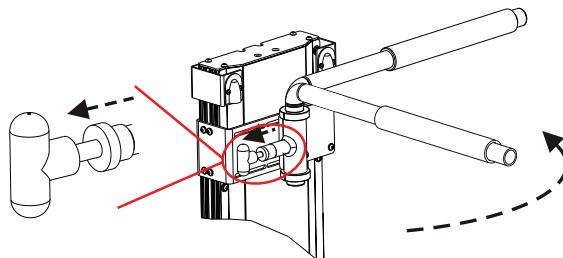

Figure 3-9
- The hold-down arm may be rotated out of the way. Pull the T-handle and rotate the hold-down arm to the desired position. Release the T-handle to lock in place. *See Figure 3-9.*